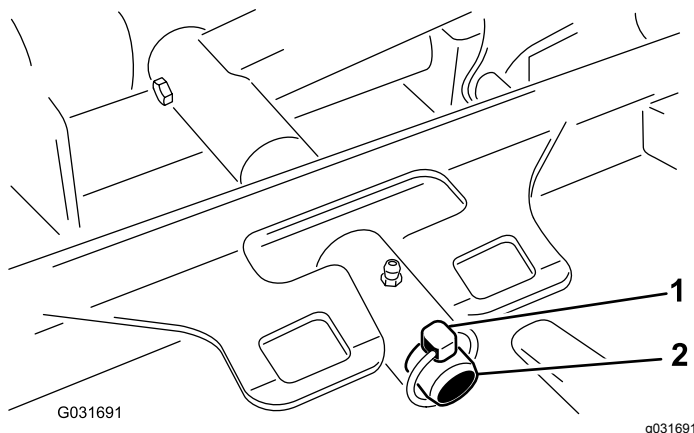

Figure 81
3. Remove the lynch pin securing the deck carrier frame to the lift arm pivot pin (Figure 81).
3. Slide the deck carrier frame onto the lift-arm pivot pin and secure it with the lynch pin (Figure 81).